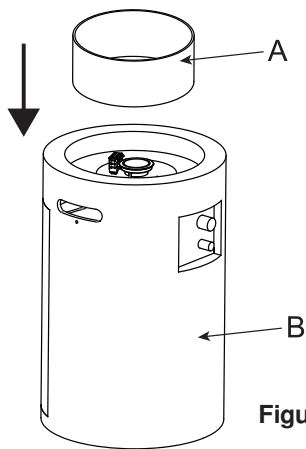

Figure 3
4. Insert the glass shield (**A**) into the top supports of the fire pit body (**B**). (see Figure 3).